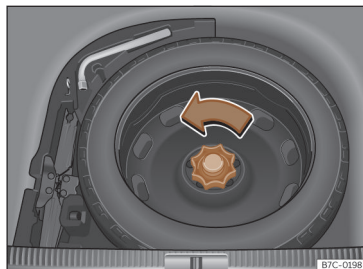

Fig. 240 In the luggage compartment: load floor raised.
- Turn the thumb wheel anticlockwise >>> **Fig. 240**.